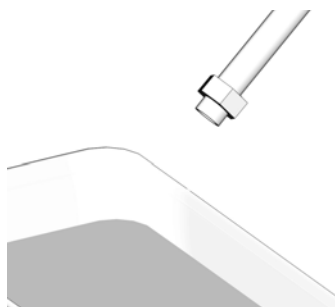

FIG. 10
- Throughout these instructions the inlet-side refers to the side of the spool the fluid inlet (6) is installed. The motor-side refers to the side of the spool the motor module (26) is installed.
- Place end of hose in a waste container (FIG. 10).